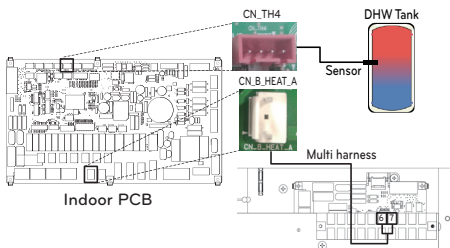

Fig. 1
**Step 2.** Connect Harness (Violet) of Main PCB assembly (TB1 (6/7)) to 'CN\_B\_Heat\_A' of the Main PCB like following fig. 1.
**Step 4.** Connect power supply to the DHW tank kit as shown fig. 1.